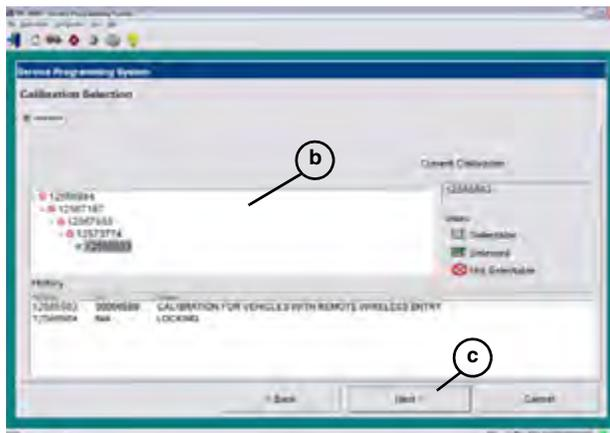

Figure 2.20: Calibration Selection Window
- b Click the appropriate box(es) to select the calibration file(s) (Figure 2.20).